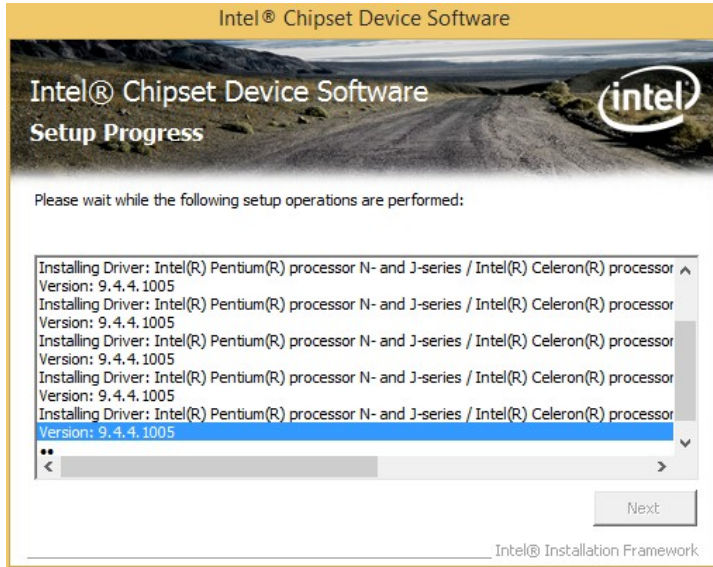

Figure 6-6: Chipset Driver Setup Operations
Step 9: Setup Operations are performed as shown in **Figure 6-6**.